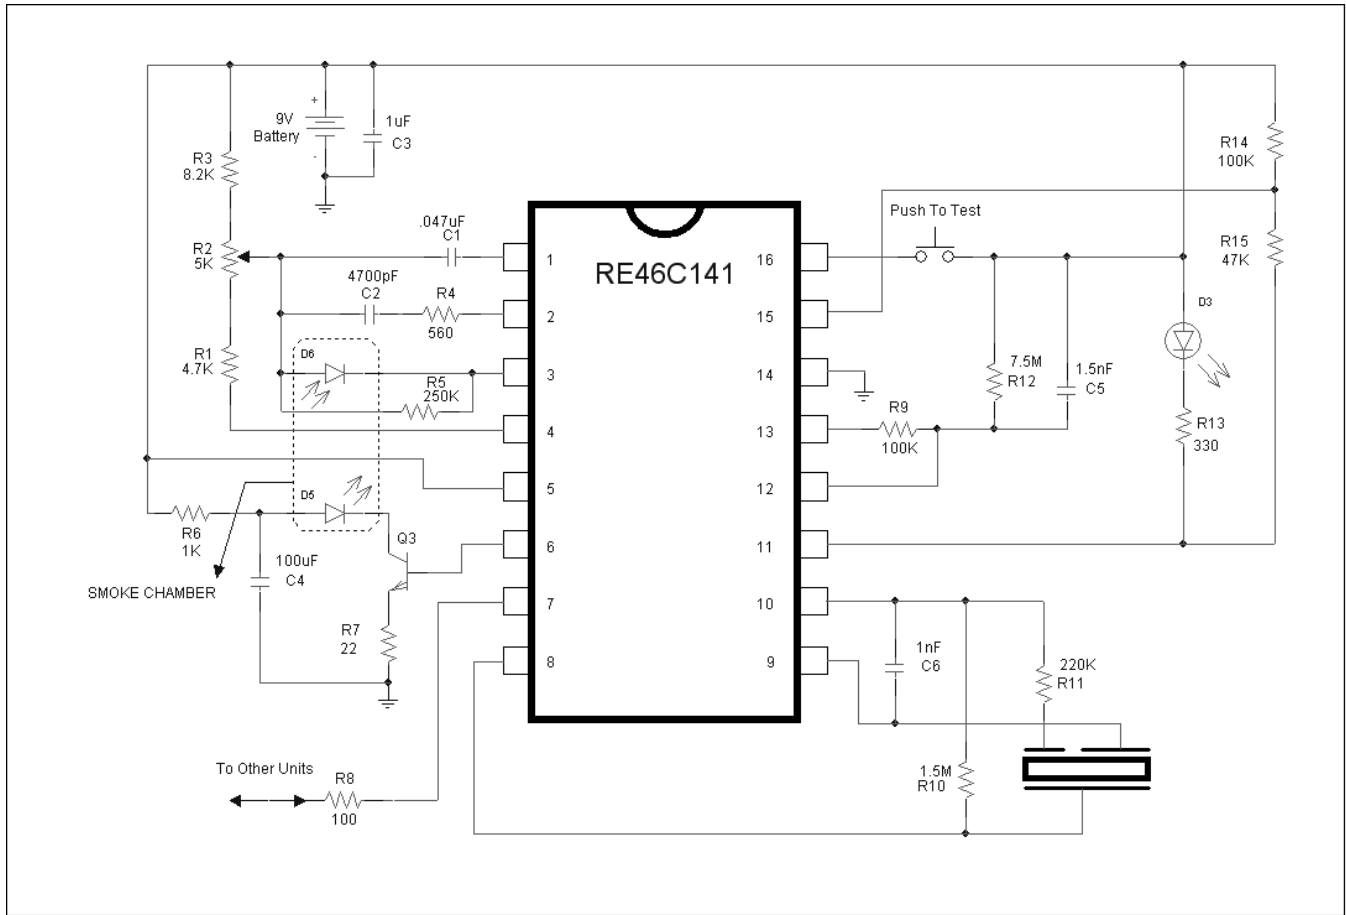

Figure 2
**AC Electrical Characteristics at TA = -25° to 75°, VDD=9V, VSS=0V, Component Values from Figure 2 ;
The oscillator period is determined by the values of R9, R12 and C5 (see typical application FIG 2). The oscillator period  $T = T_R + T_F$  where  $T_R = .6931 * R12 * C5$  and  $T_F = .6931 * R9 * C5$